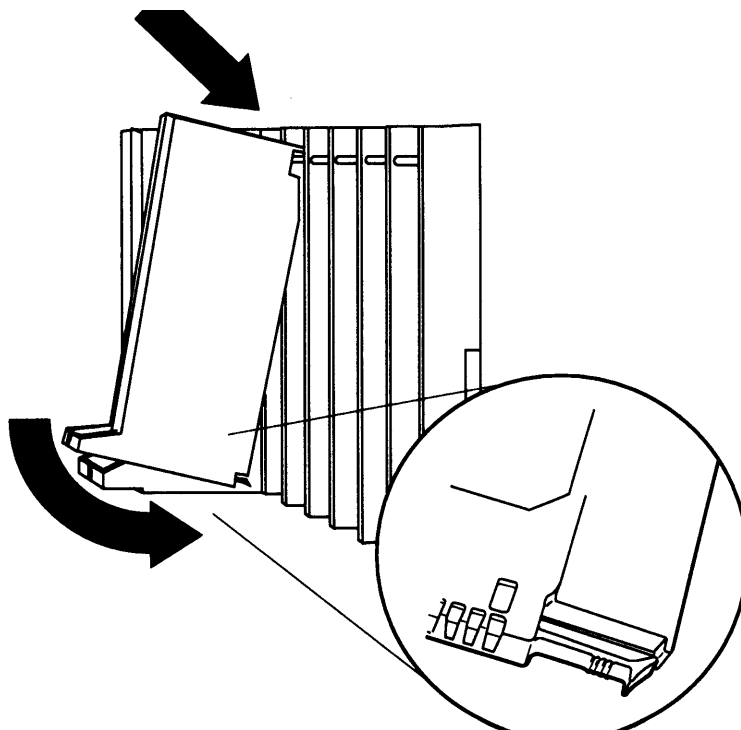

Figure 2-3. Installing the 800 CO-BRI Module
3. Swing the module into the slot. Be sure that the connector on the module mates properly with the connector on the carrier, and firmly push the module into the carrier until it locks into place (see Figure 2-3).